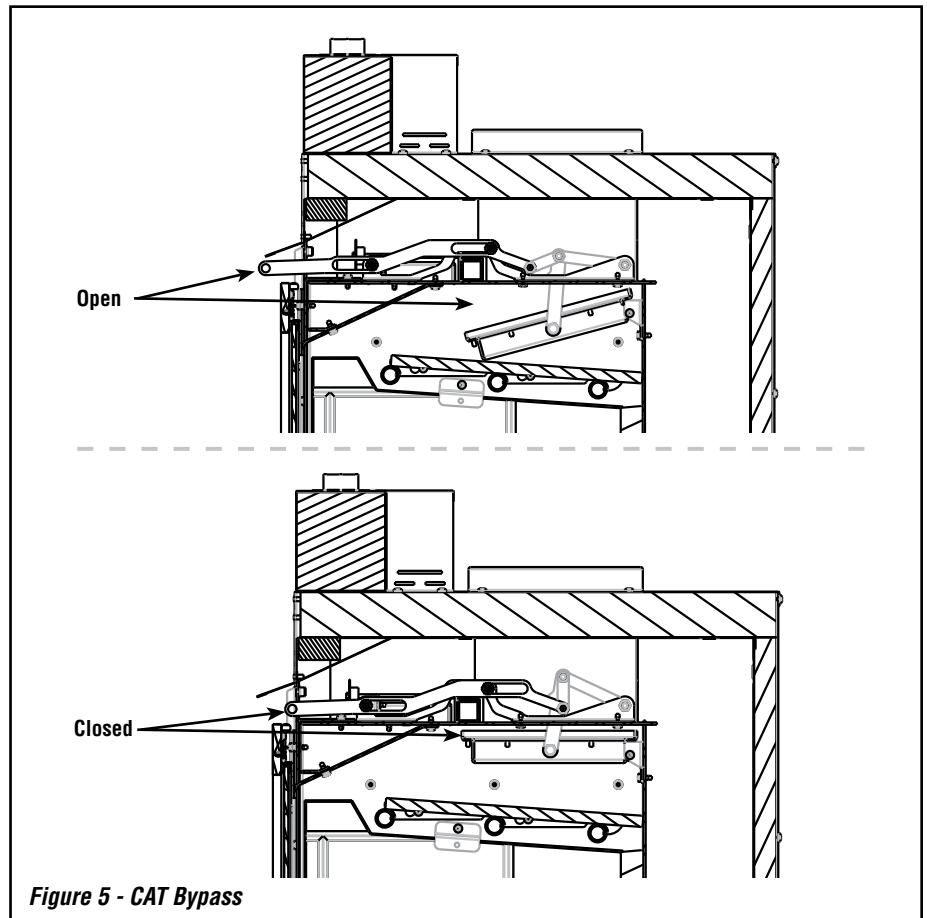

Figure 5 - CAT Bypass
Step 1. Open the CAT Bypass fully (see *Figure 5*).